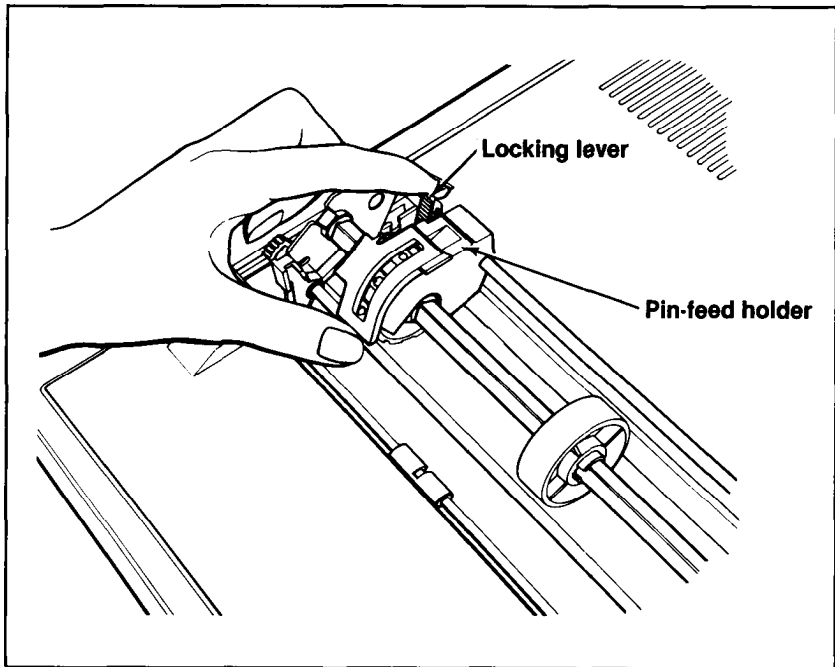

Figure 3-5. Moving the pin-feed holders
3. Using Figure 3-5 as a guide, pull the locking levers on the pin-feed holders forward so that you can move the holders to the left and right.